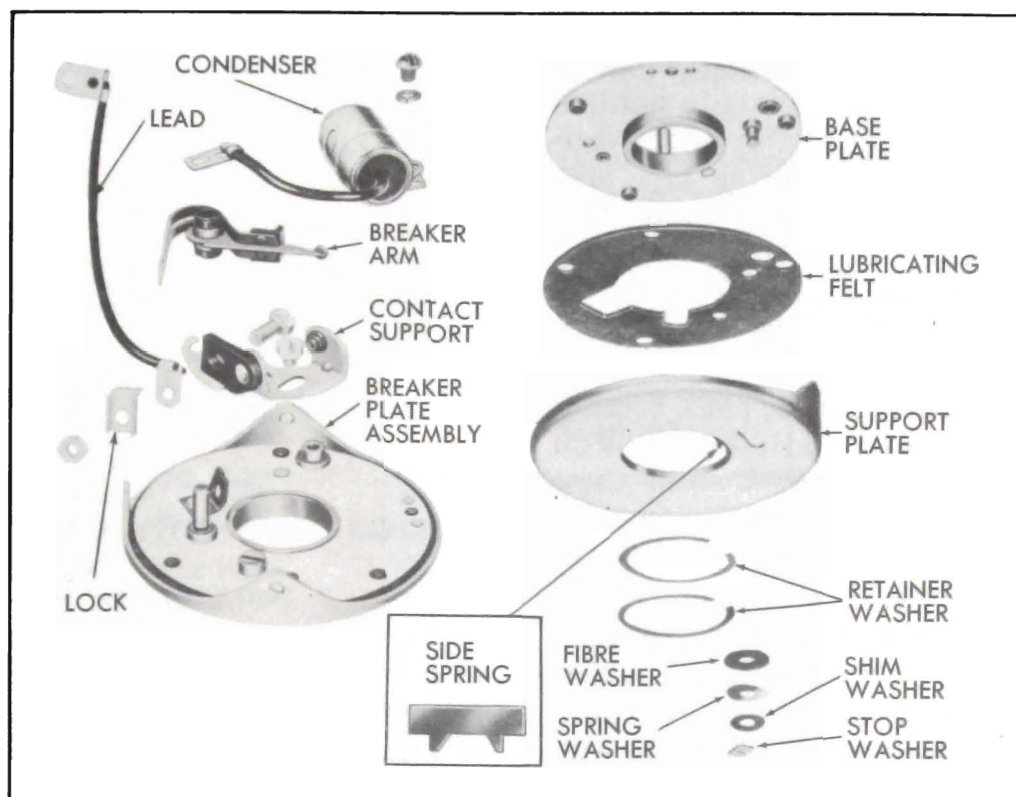

Figure 10-86—1949 Model Breaker Plate Disassembled
Adjust the tension on base plate to obtain 11-18 ounce pull, if necessary, by adding one or more shim washers on base plate post between the stop and spring washers. Make sure that enough retainer washers are installed at center bearing to take up end play without causing binding. See figure 10-86. If this adjustment fails to correct looseness and tipping of base plate, replace the breaker plate assembly.
9. Normally it is unnecessary to disassemble the *1949 model* breaker plate assembly. It may be disassembled, however, by removing the stop washer from post and retainer washers from center bearing of base plate. See figure 10-86.